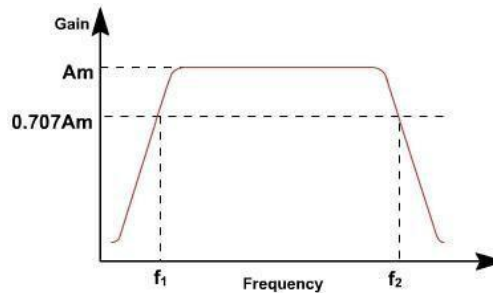

Fig 7
The gain is constant over a frequency range. The frequencies at which the gain reduces to 70.7% of the maximum gain are known as cut off frequencies, upper cut off and lower cut off frequency. **fig.7**, shows these two frequencies. The difference of these two frequencies is called Band width (BW) of an amplifier. $BW = f_2 * f_1$.